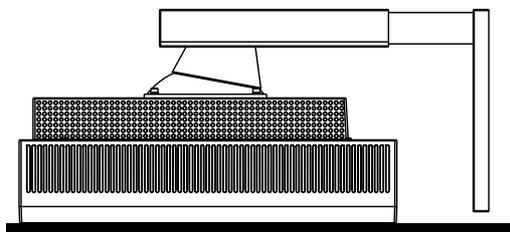

Figure S.1
2. Place monitor face down on a non-abrasive surface (**Figure S.1**).